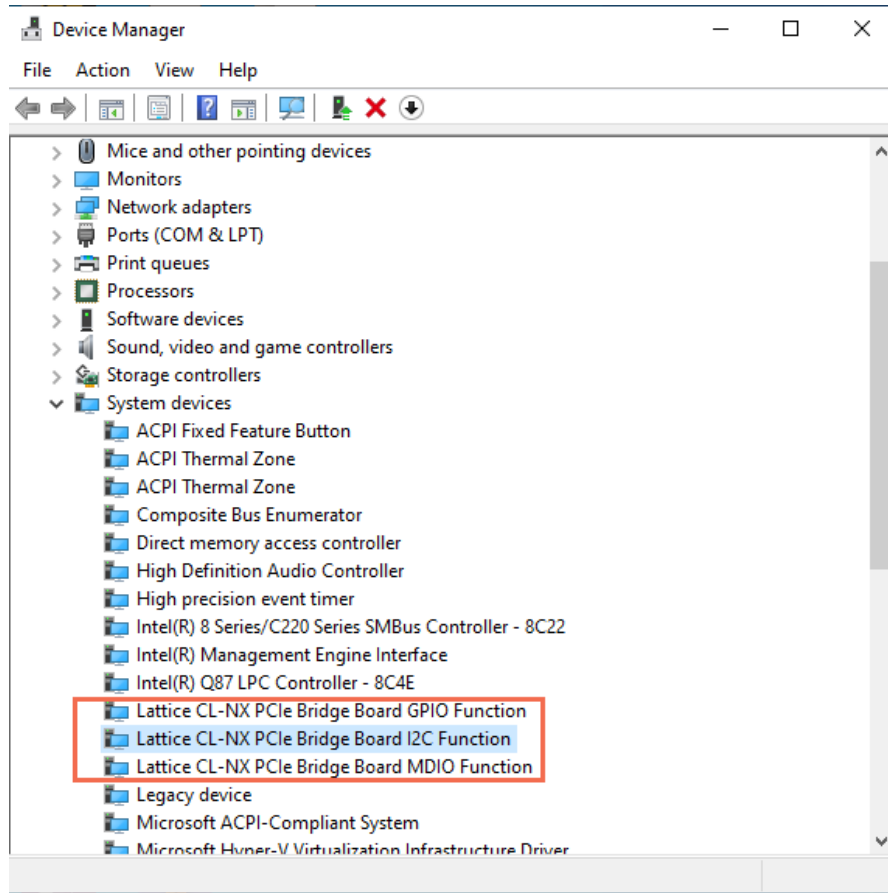
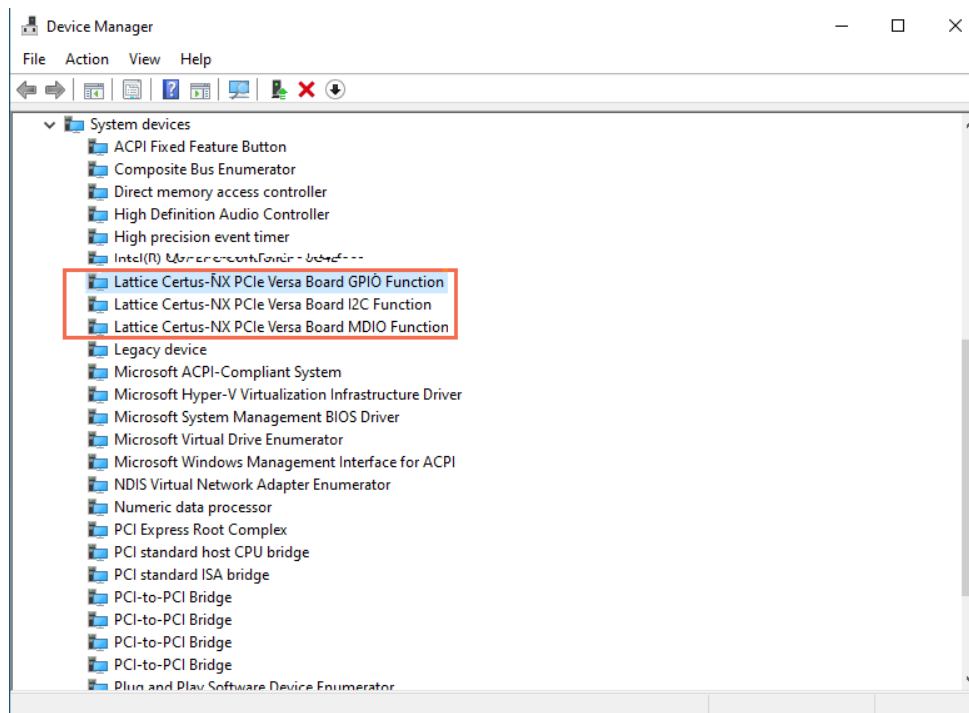
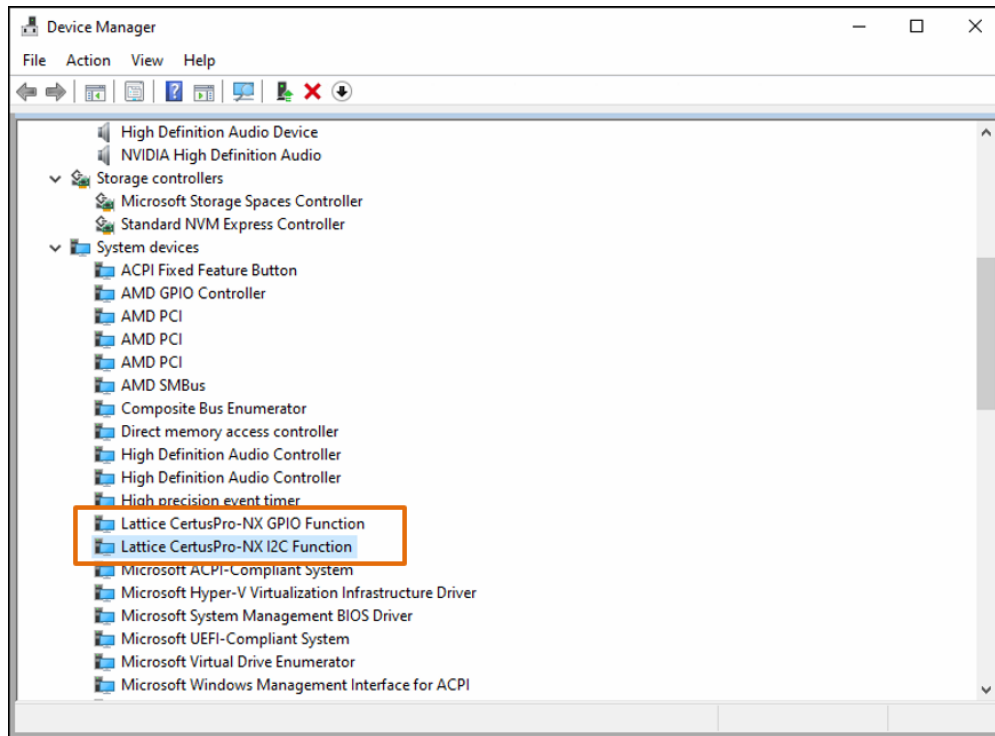

Figure 5.54. MDIO, I2C, and GPIO Device Drivers for the CrossLink-NX Board in Device Manager
Figure 5.55. MDIO, I2C, and GPIO Device Drivers for the Certus-NX Board in Device Manager
Figure 5.56. I2C, and GPIO Device Drivers for the CertusPro-NX Device Board in Device Manager
10. Follow steps 3 through 8 for the I2C and GPIO devices. After successful installation, all the three devices must be displayed in Device Manager as shown in Figure 5.54 for the CrossLink-NX device board, Figure 5.55 for the Certus-NX device board, and Figure 5.56 for the CertusPro-NX device board.